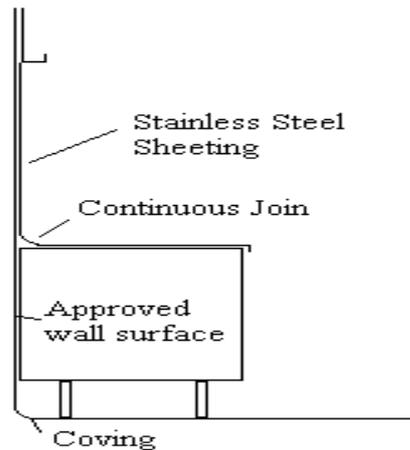

Figure 4b - Stainless Steel Splashback
- The wall behind cooking equipment shall be protected by stainless steel sheeting from the lower edge of the exhaust canopy to the floor or top of coving. In cases where a stainless steel splashback forms an integral part of the cooking appliance surface it can be extended up to the lower edge of the canopy and in this case the wall below the cooking equipment does not require stainless steel sheeting provided the surface is impervious and heat resistant. (Figure 4b)